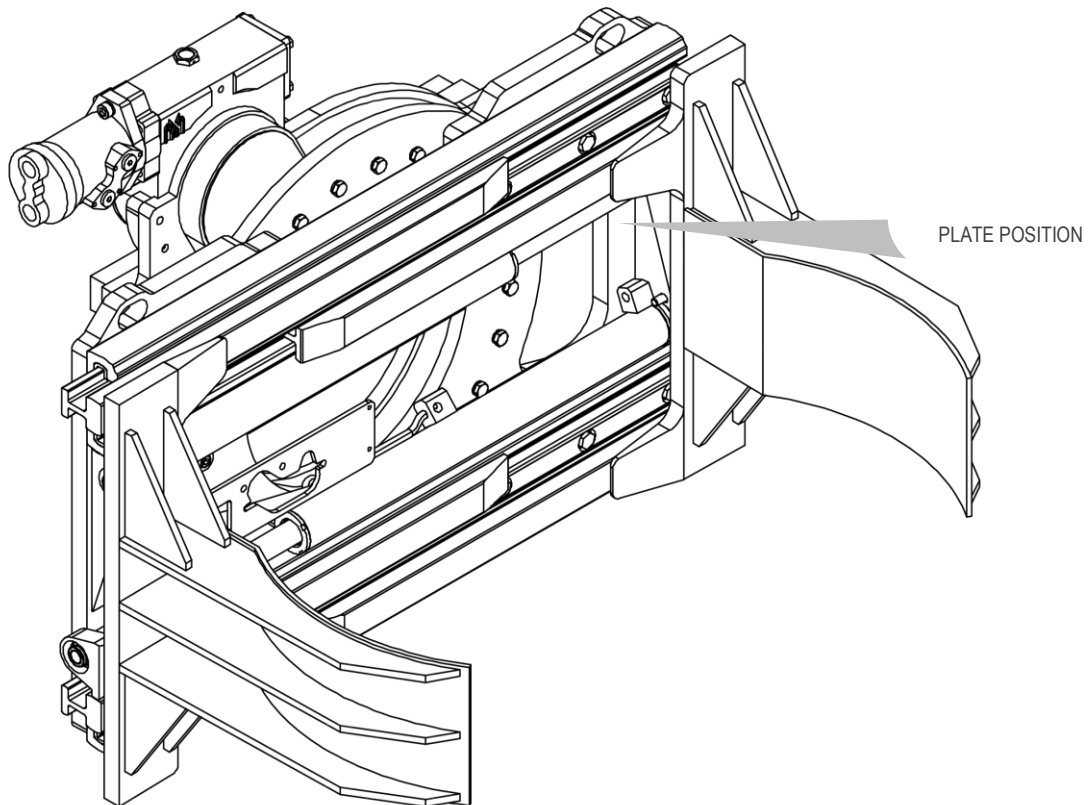

Figure 1
All the A.T.I.B. equipment – “GRIPPER ROTATING 360° FOR ONE OR TWO DRUMS TYPE 301.474.160 | FOR TWO OR FOUR DRUMS TYPE 301.474.190” are identified by means of an adhesive plate (see *Table 1*) located on the equipment (the location of the rating plate may vary depending on the equipment, see *Figure 1*). Always refer to the serial number.
5. For handling, use straps or chains suitably sized in relation to the weight of the equipment as indicated on the plate (see *Figure 1* and *Table 1* on page 6).
10. Connect the hydraulic circuit, ensuring that the operating pressure of the lines is greater than or equal to that indicated on the rating plate (see *Figure 1* and *Table 1* on page 6).
- For handling, use straps or chains suitably sized in relation to the weight of the equipment as indicated on the plate (see *Figure 1* and *Table 1* on page 6).